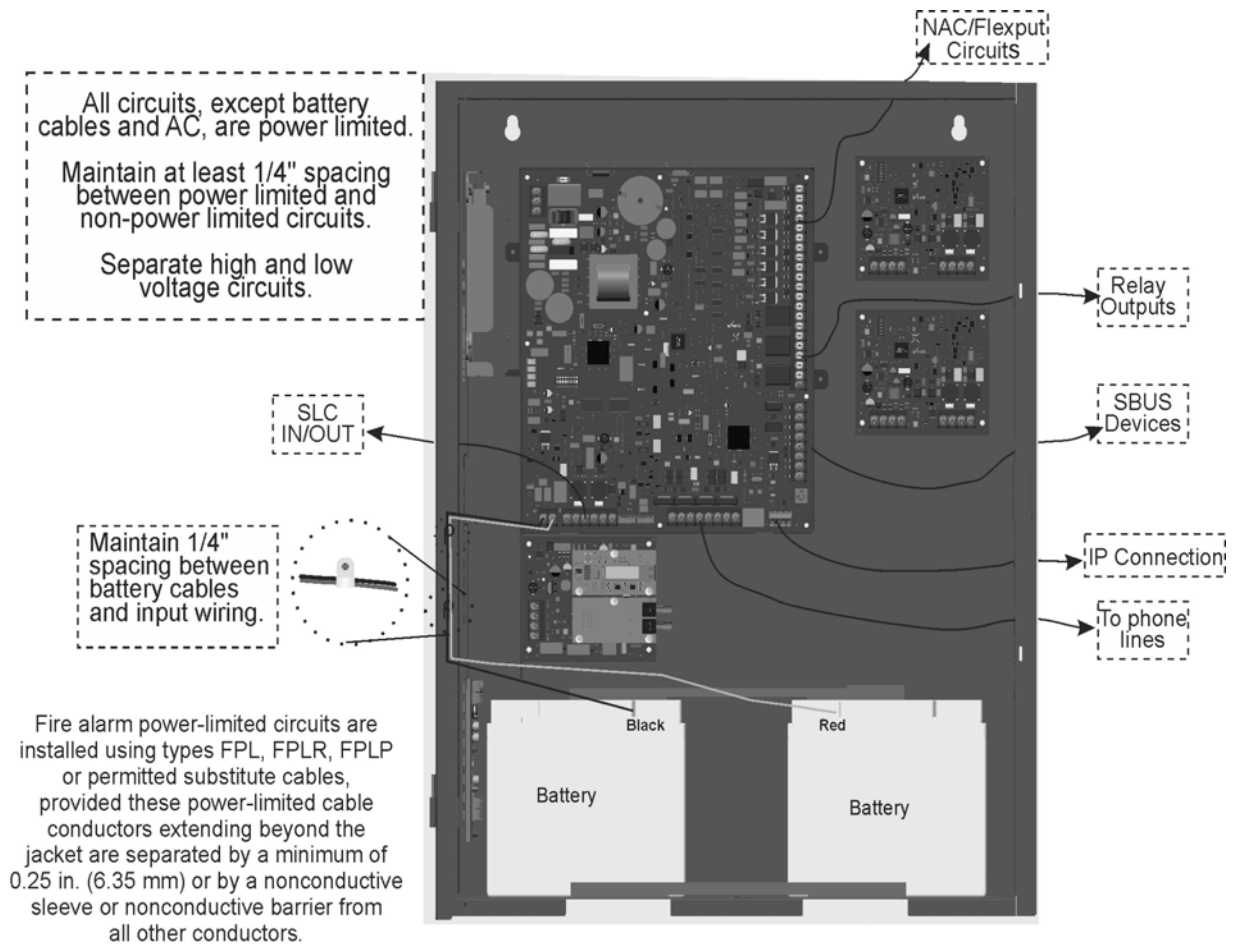

Figure 3-1 Wire Routing Example for 6820/EVS
- Route the wiring around the inside perimeter of the cabinet. It should not cross the circuit board where it could induce noise into the sensitive microelectronics or pick up unwanted RF noise from the high speed circuits. See Figure 3-1 for an example.